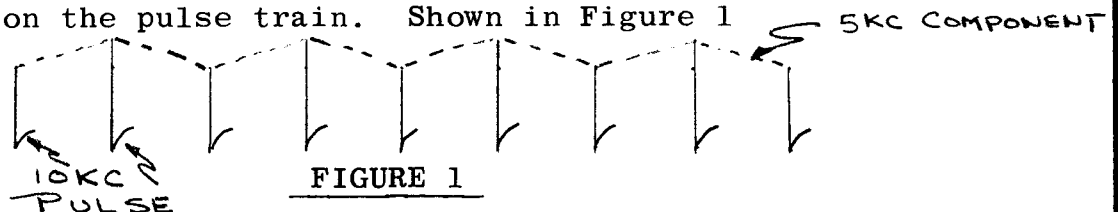

FIGURE 1
C. Associated with the 10 KC input, is a circuit used to indicate the presence of a 5 KC component imposed on the pulse train. Shown in Figure 1
In order to properly set the 5 KC indicator, the wave form shown in Fig. 1 must be present. It may be necessary to duplicate this condition in the CHL-1 being used for this test. This can be accomplished
by inserting a 2.2 K resistor in series with R122 in the CHL-1. Observe the 10 KC output from the CHL-1 with a scope and adjust the 10 KC adj. potentiometer (CHL-1) for **the** wave form shown in Fig. 1. Connect 10 KC (J104 or J113) to test unit. After a 5 KC component is produced, set the bias adj. potentiometer (Fig. 2) to 3 volts positive on the grid of V 2 (pin 7). Tune 5 KC adj. # 1 (Fig. 2) for maximum lamp brightness.